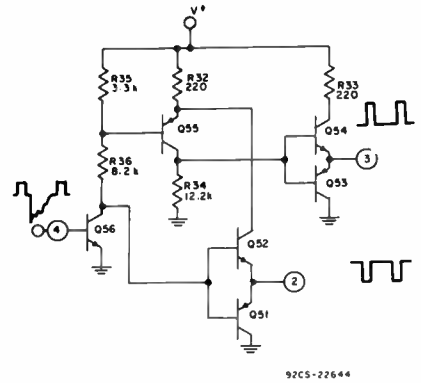

Fig. 4 — Sync separator stage.
**Sync Separator** (See Figure 4) — The sync separator stage (Q56) clamps the detected sync tips to a fixed reference voltage ( $\cong 0.7$  V) across its base-emitter junction, and amplifies a portion of the sync signal to provide dual polarity sync-signal outputs at Terminals 2 (negative) and 3 (positive). The output signals are derived from low-impedance complementary emitter-follower stages; a base current of 100 microamperes into Terminal 4 is sufficient to generate full-amplitude sync signals.